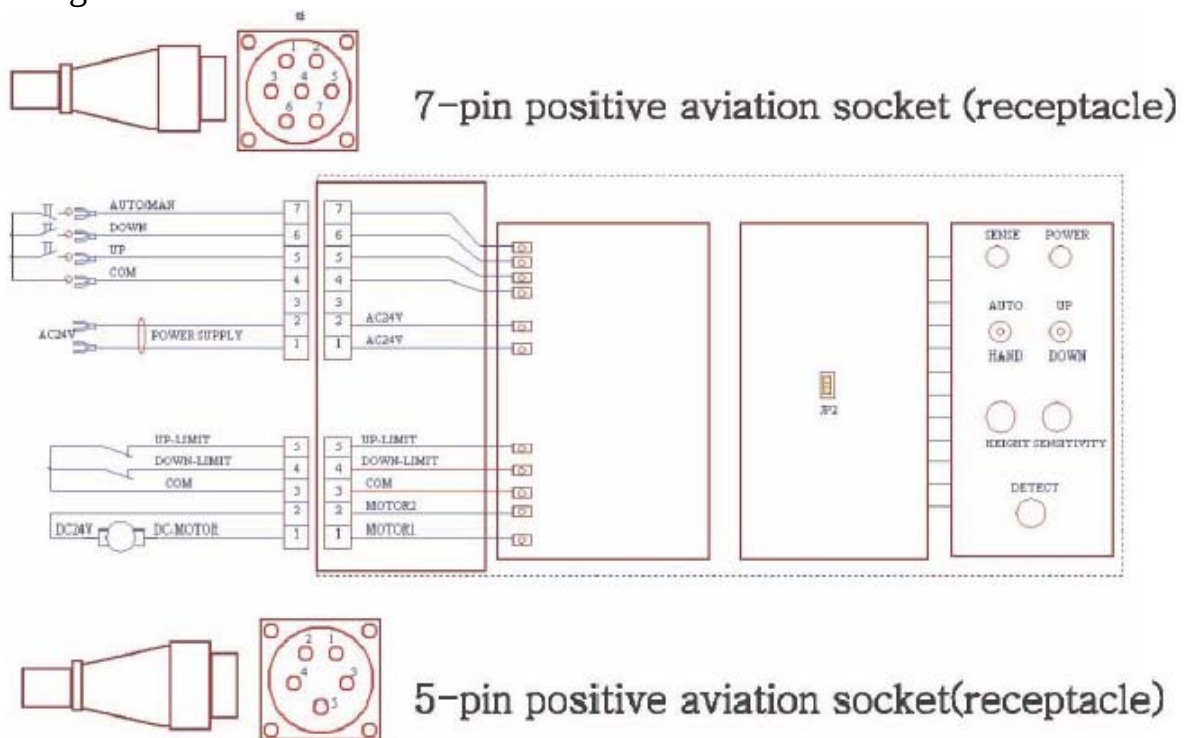

Figure 21 : Control PCB –Connection of aviation socket
- Figure 21 shows the connection of control PCB's aviation socket.